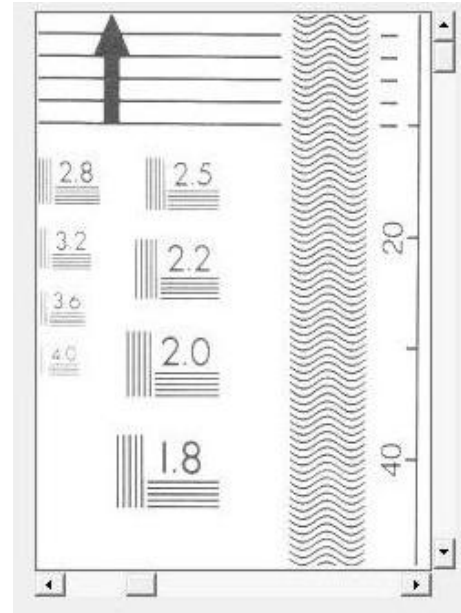

Figure 5-258
- 5) Use [Zoom] to enlarge the leading edge of the image and ensure that the position of the leading edge is correct. (Refer to Figure 5-258)